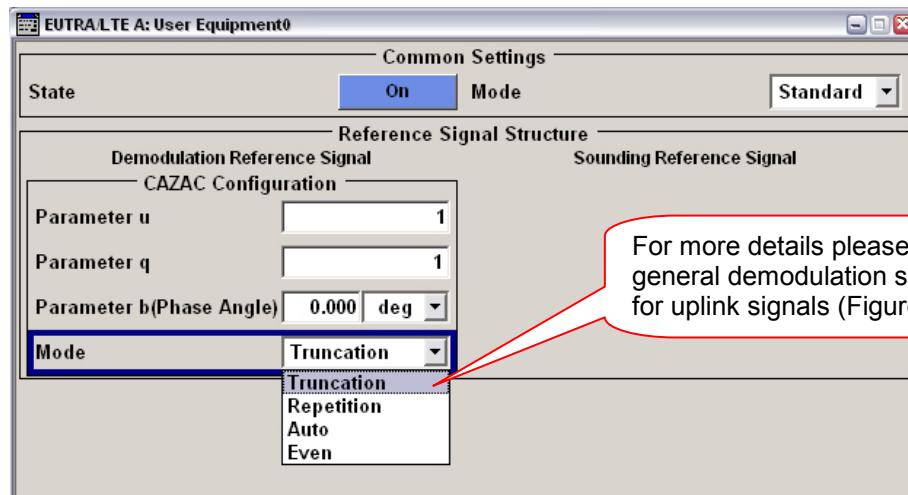

Figure 5-5 SMU EUTRA/LTE UL settings – Settings User Equipment (CAZAC Parameter)
- ⑧. Configure user equipment, set CAZAC parameter (Figure 5-5)